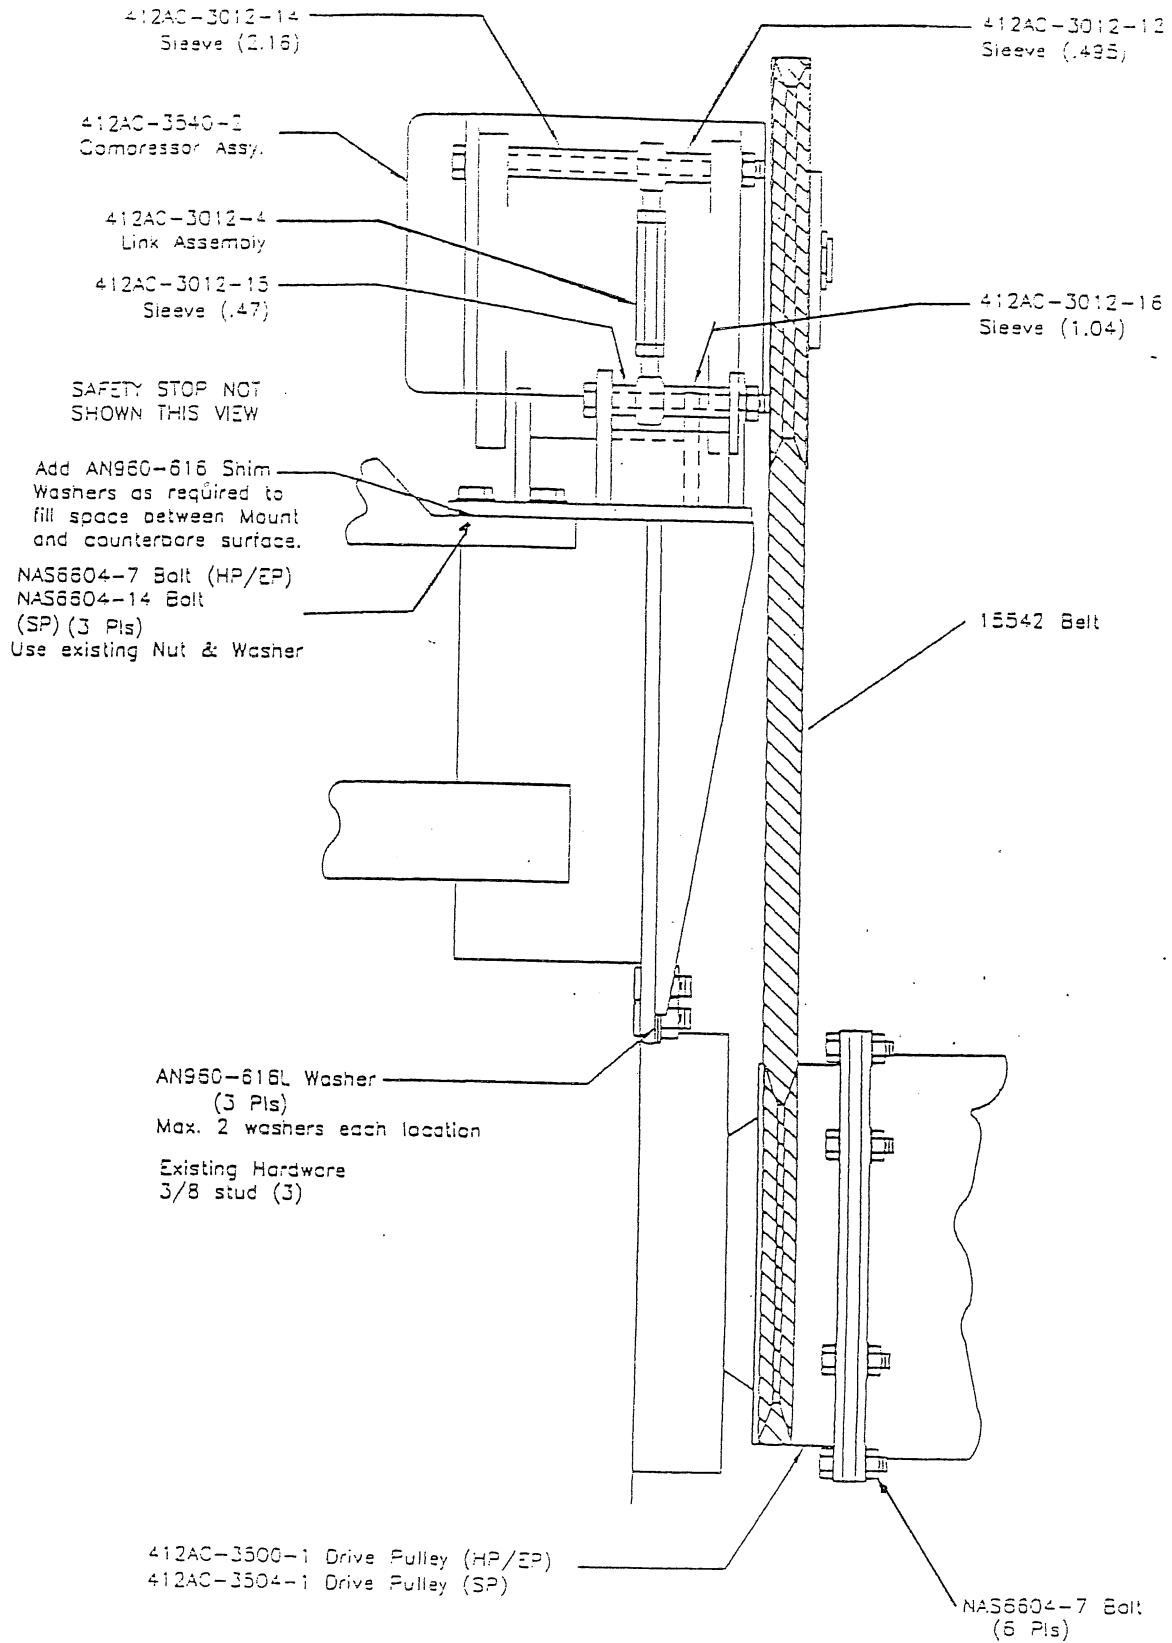

Fig. 1-1 Existing Compressor / Compressor Mount Installation
5. Remove the NAS6604-7 Bolts (6 Pls) from the 412AC-3500-1 (EP/HP), Drive Pulley Assembly. Separate the Drive Pulley from the Driveshaft and Transmission Input Coupler to allow for the removal of the Compressor Drive Belt. (See Fig. 1-1)
7. Remove the existing nuts, and AN960-616L Washers (3 Pls) from the 3/8" Studs located at the base of the Compressor Mount. (See Fig 1-1)
8. Remove MS21042L6 Nut (1 Pls) from NAS6606-44 Bolt (1 Pls), 412AC-3012-15 & 412AC-3012-16 Sleeve(s) (1 Pls), and AN960-616 Washer (3 Pls) at the bottom of the 412AC-3013-4 Link Assembly. (See Fig 1-1 & 1-4)
9. Remove the existing Nut from the NAS6604-7 Bolt (3 Pls) (HP / EP). (See Fig. 1-1)